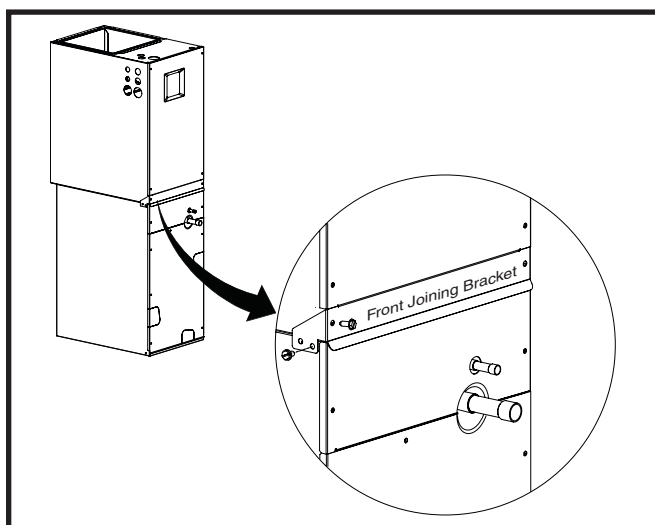

Figure 3. Front Bracket Installation - (Upflow Only)
4. Attach the front joining bracket to the front of the modular unit. Align the screw holes in the bracket with the holes from the lower front bracket and the top panel of the coil case. See Figure 3 \(page 7\).
1. Remove the lower front bracket (Figure 3) from the modular unit. Retain the screws for later use.